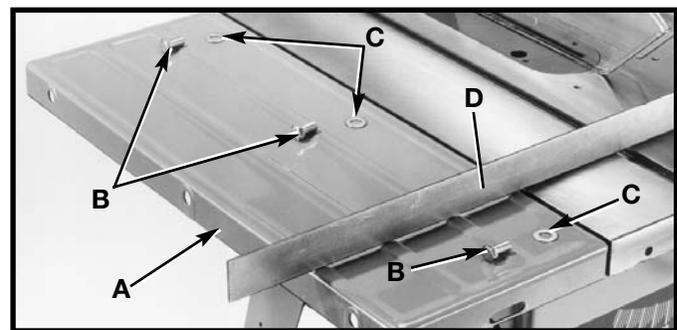

Fig. 39
1. Assemble extension wing (A) Fig. 39, to the saw table using three 7/16-20 x 3/4" bolts (B) and flat washers (C).
2. With a straight edge (D) Fig. 39, make certain the extension wing (A) is level with the saw table **before tightening three bolts (B).**